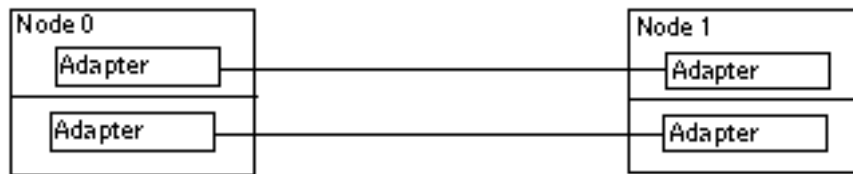

Figure 3–1 Typical Two-Node Sun Cluster Interconnect
2. Cable the nodes, as shown in Figure 3–1 or Figure 3–2.